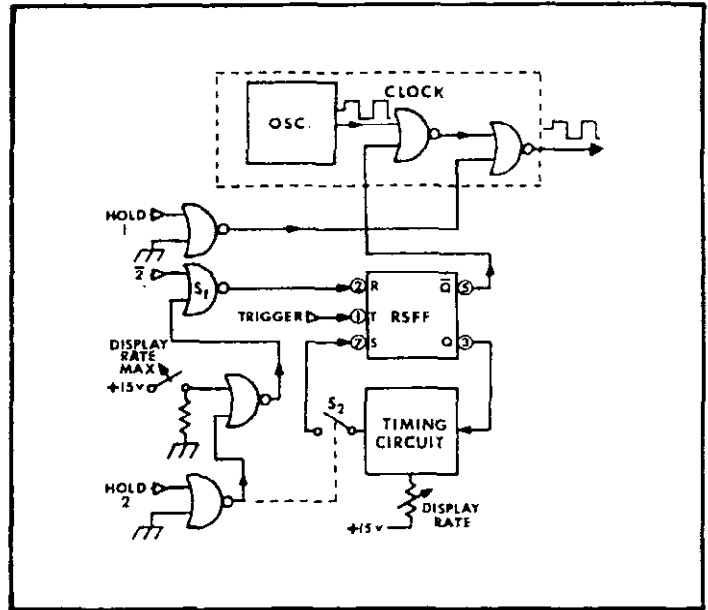

FIGURE 11. Delay Hold Circuit
e. Delay Hold. The Delay Hold circuit controls the DISPLAY RATE function and external Hold and Trigger commands as shown in Figure 11. It determines the length of time between A/D conversions when the front panel DISPLAY RATE Control is set to any position other than MAX. The clock is stopped at the beginning of the ZERO (2) period for a time determined by the rotation of the DISPLAY RATE Control. It ensures that when the Hold 2 is grounded the conversion in process will be completed and new data will be stored in the output storage register. Then the clock will be inhibited at the beginning of the ZERO period (2). The instrument will remain in this condition indefinitely until Hold 2 is released or until Trigger is shorted to ground. After conversion, the instrument will again be inhibited at the beginning of the period (2). If both Switches S₁ and S₂ are closed, the conversion cycle works in the following manner. After the previous conversion has been completed, the leading edge of the program command (2) resets the flip-flop. In this new condition Q is high and, therefore, the clock gives no output. At that time, the unijunction timer begins its cycle and, after the appropriate time, produces a pulse that sets the flip-flop. This changes Q to a low state and a new conversion cycle begins. After the reading has been completed, the (2) command again resets the flip-flop and the timer again issues a new pulse to set the flip-flop.